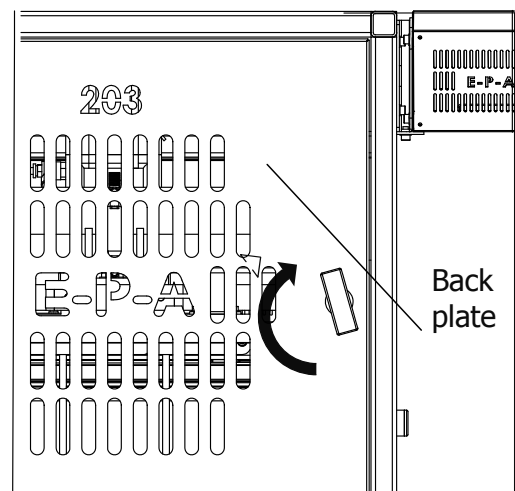

Figure.17
- d) Ensure that back plate of the machine is close. (Figure.17)
- b) Ensure that back plate of the machine is close. (Figure.17)